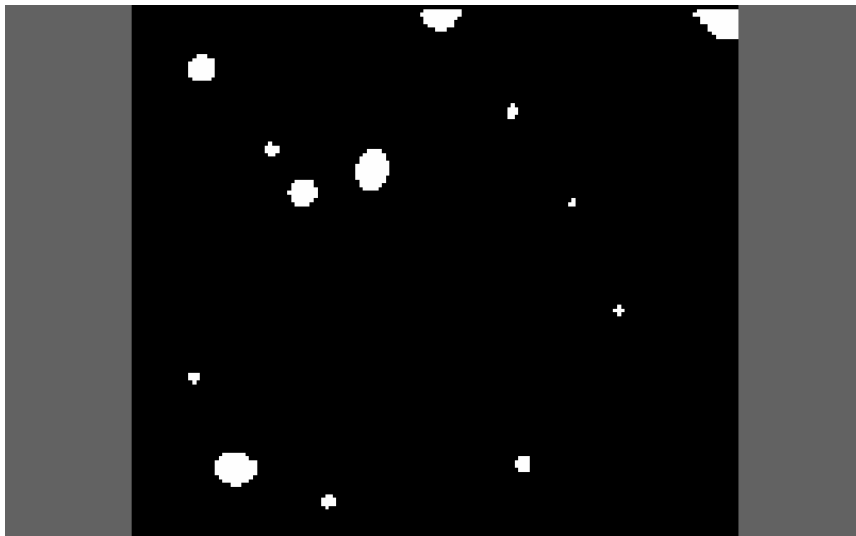

Figure 4
12. With the application of the **“Zero Border”** filter (Figure 4), the video image is now ready for particle tracking.